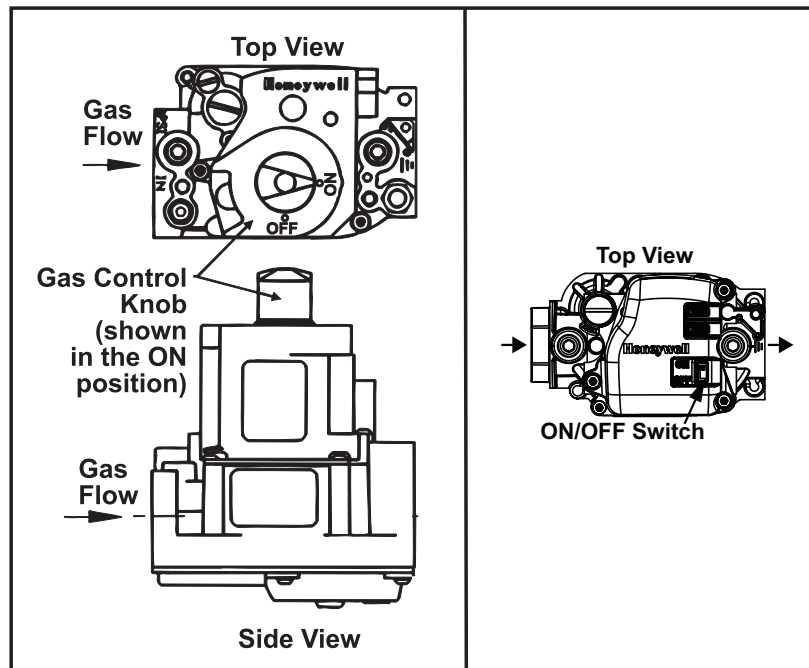

Figure 21. Gas Valve ON/OFF Control
3. Open access door and locate gas control (ON/OFF) knob or switch on gas valve (see Figure 21).